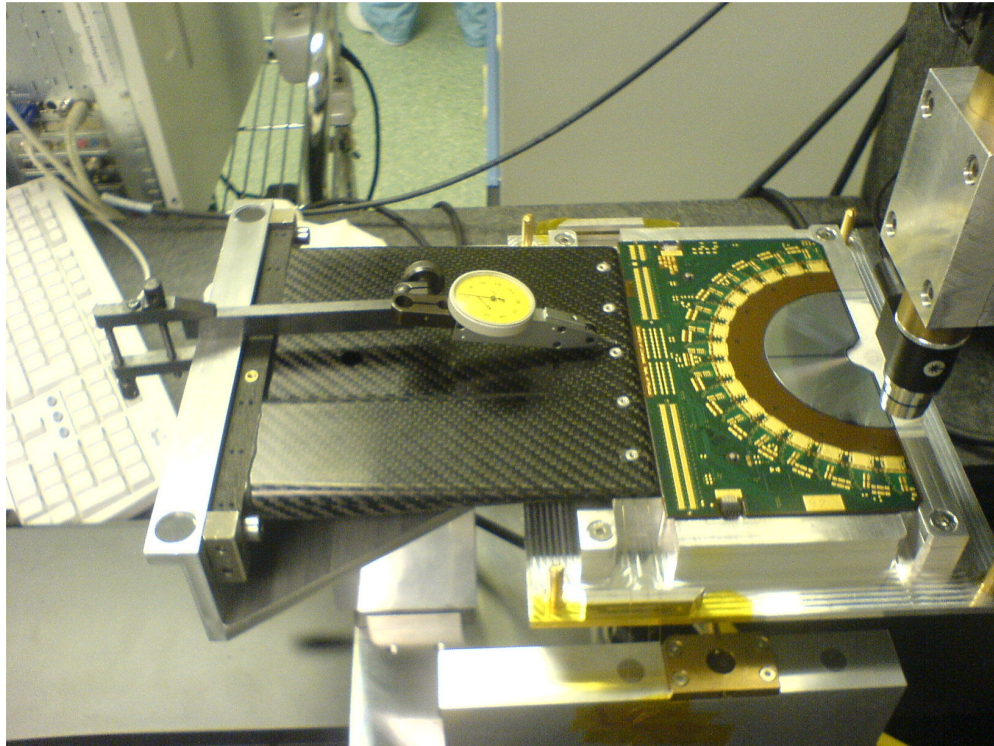

Figure 3: The hybrid to pedestal assembly.
- Let the glue harden for 12 hours. This completes the hybrid-pedestal assembly, illustrated in Figure 3.